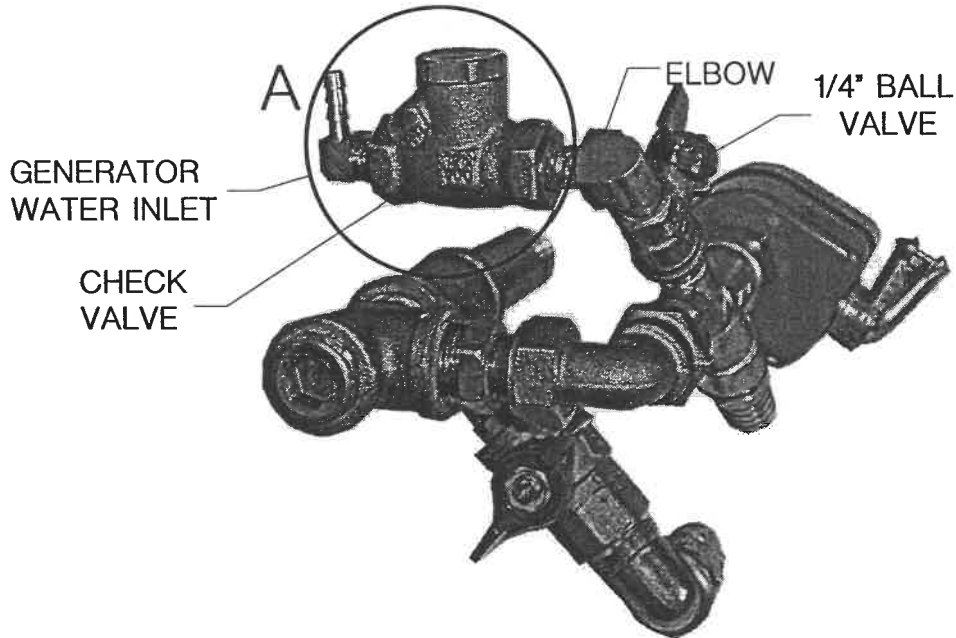

Figure 3
- 8) Remove the handle from the ball valve removed in step 7 and install the ball valve on the 1/4" port of the drain valve (Figure 3). Do not allow pipe sealant to clog the drain valve. Reinstall the valve handle.
- 9) Install the 1/4" elbow supplied with the kit on the ball valve installed in step 8 (Figure 3).
- 10) Install the generator water inlet (nipple, check valve, hose barbs fitting) removed in step 6 into the 1/4" elbow installed in step 9 (circle A in Figures 3). Important: The check valve must be installed in upright position as shown in Figure 3 in order to operate properly!